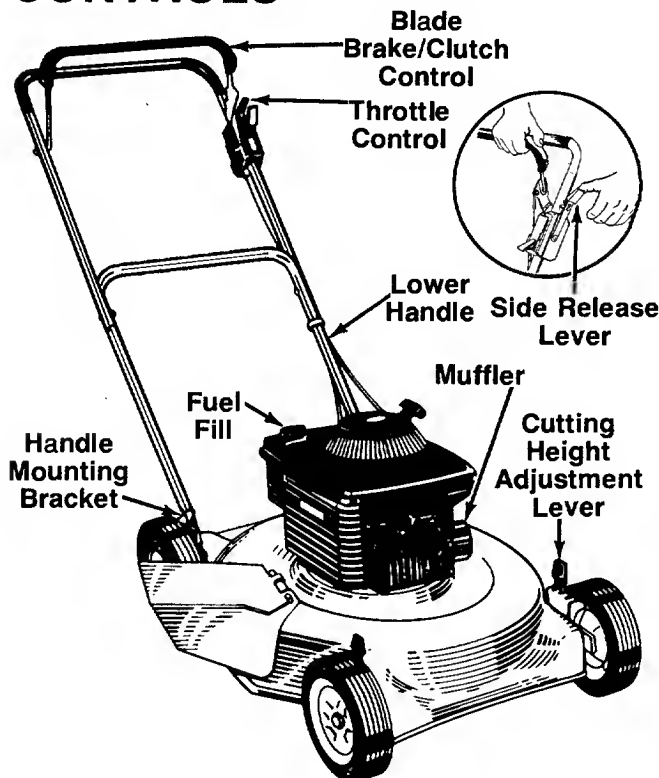

FIGURE 8.
The throttle is located on the left side of handle. It controls engine speed. See figure 8.
To engage the blade, pull the side release lever away from the unit. See figure 8. Pull the blade brake/clutch control handle against the upper handle. Release side lever.
2. To engage the blade, pull the side release lever away from the unit. Pull the blade brake/clutch control handle down against the upper handle. Release the side lever. See figure 8.